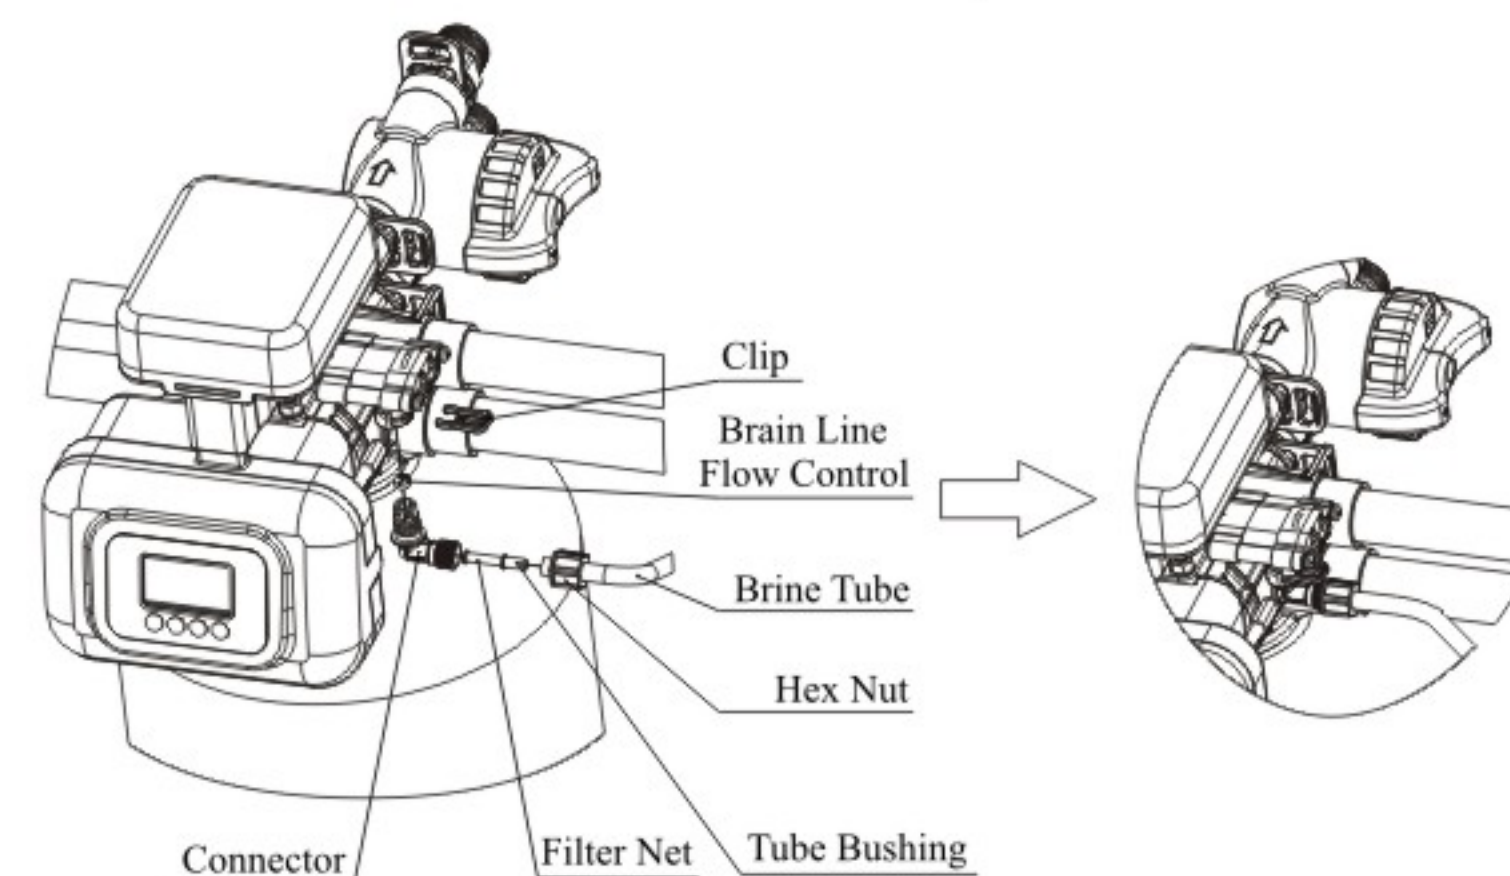

Figure 8
④ Connect brine tube
- a. As Figure 8 shows, insert brine line flow control into connector.